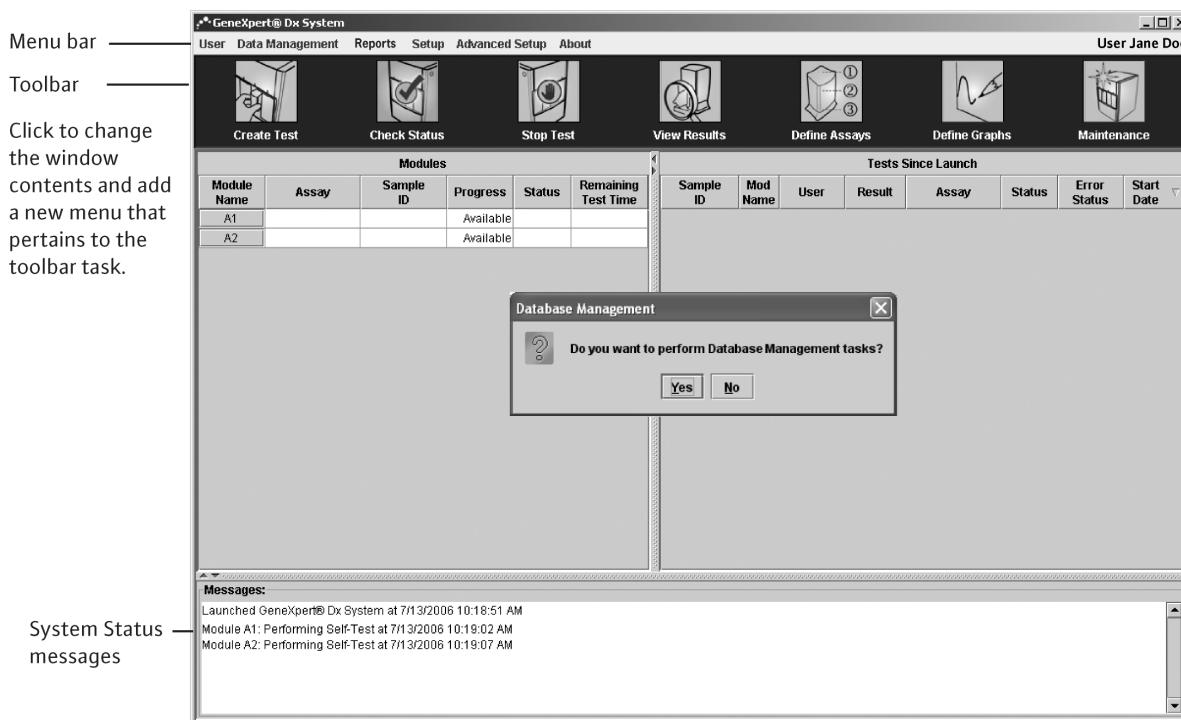

Figure 5–8. GeneXpert Dx System window
4. Start the software (Section 5.2.2.1). The Login dialog box appears (Figure 5–2).
5. Log on using your user name and password (Section 5.2.3). The GeneXpert Dx System window appears (Figure 5–8). Depending on the permissions you have, the GeneXpert Dx System window might vary slightly from Figure 5–8.